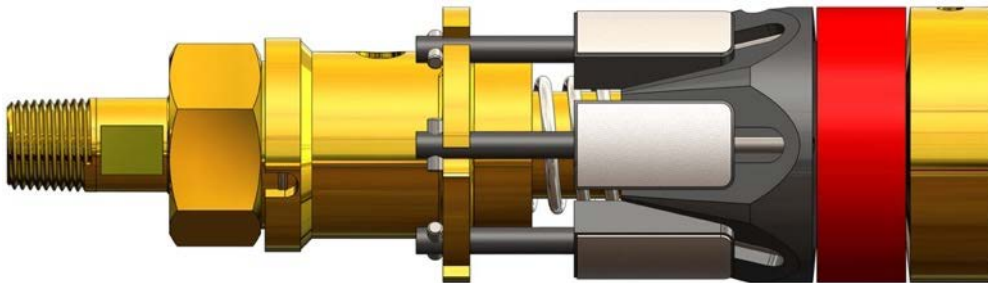

Figure 5: Not Ready to Install State (Retracted)
- The GripSafe ST ORB plug should arrive from the factory in the Retracted position. Refer to Figure 5 for details.
**CAUTION: SLOWLY** open the **Vent Port (16)** to relieve backpressure. Exercise caution when opening valves or loosening fittings to prevent hazardous pressure flow or fittings becoming dangerous projectiles, which could cause injury or equipment damage. If using a backpressure monitoring tee, be aware that rapid gas or liquid flow can cause hose whip. Take care to avoid this, as it may also lead to injury and equipment damage.
- Once the **Seal (9)** is released from the pipe's internal diameter, water may flow out. Be prepared to capture it if desired. Continue to slowly loosen the **Compression Hex Nut (2)** until the wedges are fully relaxed (retracted) and the seal is freed from the pipe (see Figure 5).
- The texture of the **Wedge Grippers (11)** may become clogged with pipe scale and rust after several uses. Inspect this surface after each use to maintain